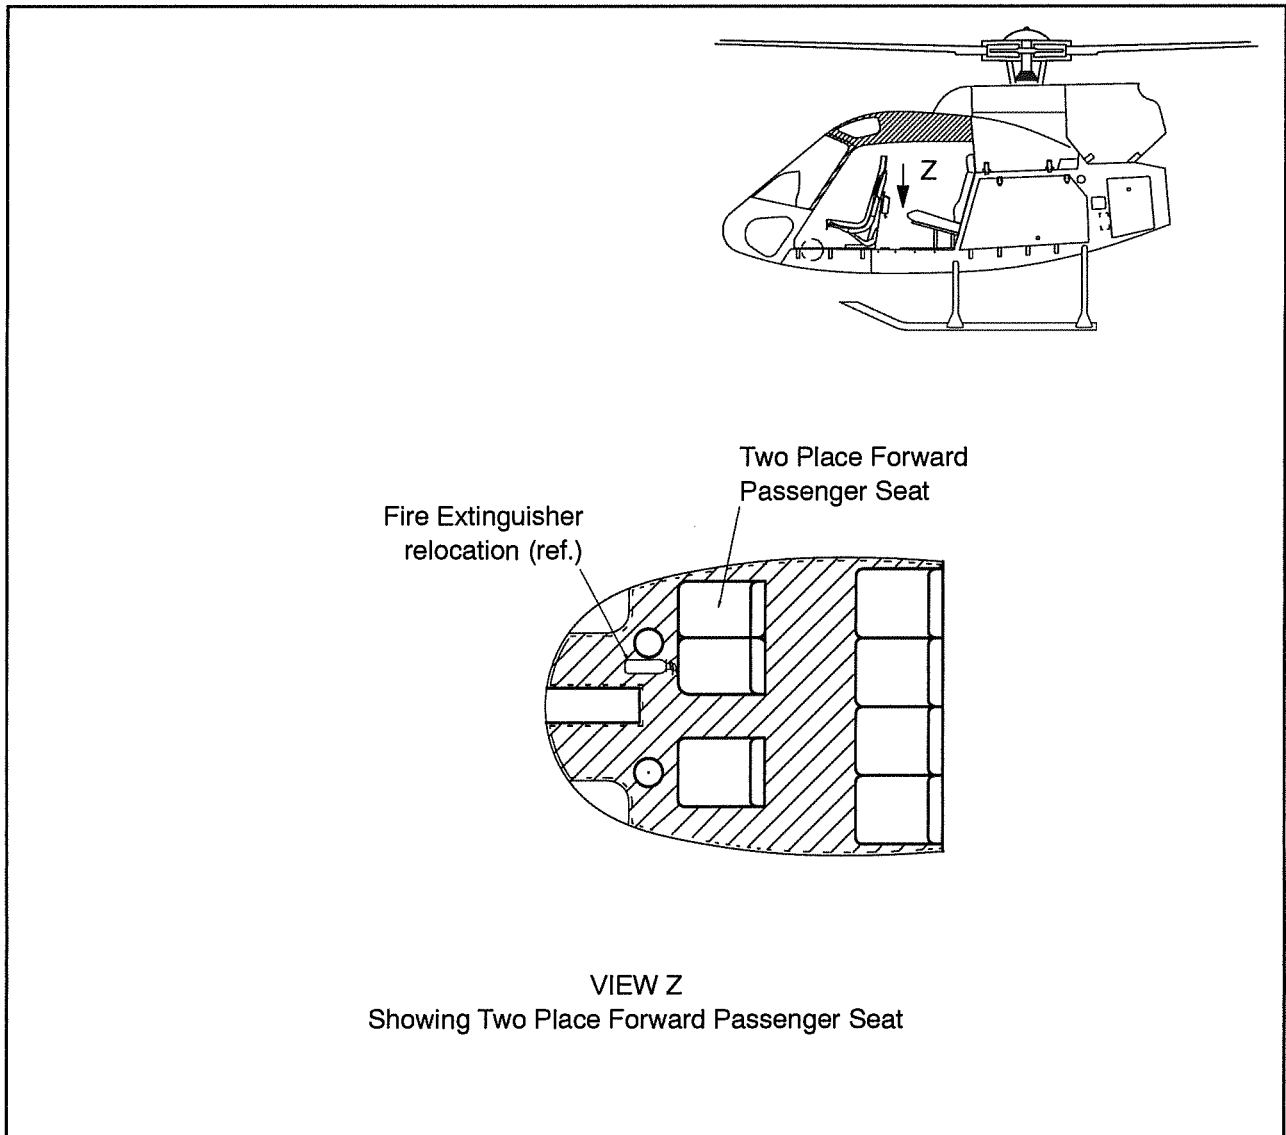

Figure 1 General Layout
A. The Two Place Forward Passenger Seat is a composite-structure double seat that is secured to fixed seat rails on the cabin floor. When the two-place seat is mounted in lieu of the right hand pilot's seat the aircraft can carry seven persons. To provide additional leg room for the center passenger, the complete center console structure is removed as part of the Left-Side Pilot Configuration. Refer to Figure 1 for General Layout.